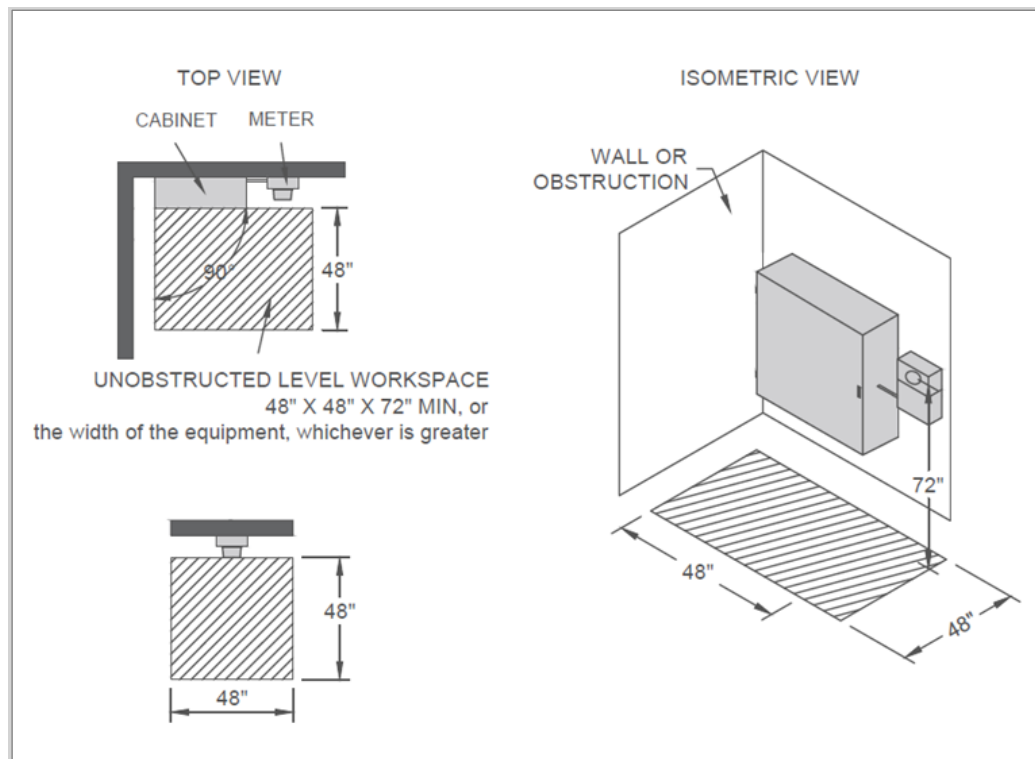

Figure 17: Minimum Unobstructed Workspace Around Metering Equipment
- The minimum unobstructed workspace in front of a meter is 72 inches high, 48 inches wide, and 48 inches deep (or the width of the equipment, whichever is greater). The width of the workspace in front of the electrical equipment must be the width of the equipment or 48 inches, whichever is greater. These clearances are shown in **Figure 17**.